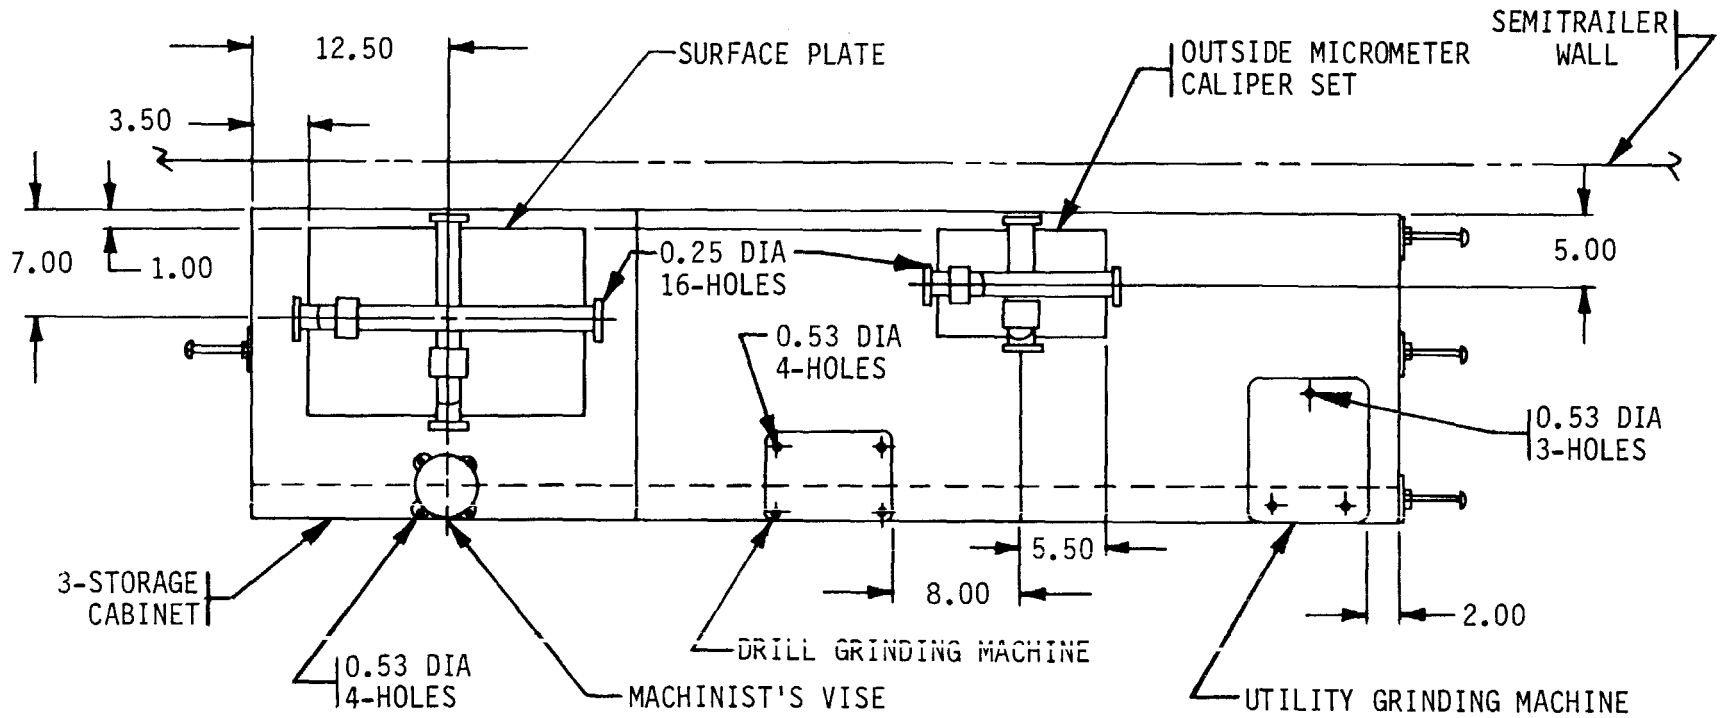

Figure 4. Dimensions for storage cabinet top mounted equipment.
(7) Position surface plate (5220-00-293-3556) on storage cabinet top in accordance with figure 4. Secure surface plate to storage cabinet top by placing one 66-in. retaining strap (7550588-9) parallel to semitrailer wall and one 48-in. retaining strap (7550588-3) perpendicular to wall.
(8) Position machinist's vise (5120-00-293-1439) on storage cabinet top in accordance with figure 4. Using the base of the machinist's vise as a template, mark and drill four 0.53-in. diameter holes through the storage cabinet top. Secure machinist's vise to storage cabinet top using four 1/2- x 3-1/2-in. hex head capscrews (MS90725-121) and four 17/32-in. flat washers (MS27183-18); on the underside use four 1/2-in. flat washers (AN970-8), four 1/2-in. lockwashers (MS35338-48), and four 1/2-in. hex nuts (MS51967-14).
(9) Position outside micrometer caliper set (5210-00-554-7134) to storage cabinet tops in accordance with figure 4. Secure outside micrometer caliper set cases to storage cabinet tops with one 66-in. retaining strap (7550588-9) placed parallel to semi-trailer wall, and one 48-in. retaining strap (7550588-3) perpendicular to wall.
(10) Position drill grinding machine (3415-00-517-1050) on storage
cabinet top in accordance with figure 4. Using the base of the drill grinding machine as a template, mark and drill four 0.53-in. diameter holes through storage cabinet top. Secure drill grinding machine to storage cabinet top using four 1/2- x 3-1/2-in. hex head capscrews (MS90725-121) and four 17/32-in. flat washers (MS27183-18); under the storage cabinet top use four 1/2-in. flat washers (AN970-8), four 1/2-in. lockwashers (MS35338-48), and four 1/2-in. hex nuts (MS51967-14).
(11) Position utility grinding machine (3415-00-255-2683) on storage cabinet top in accordance with figure 4. Using the base of the utility grinding machine as a template, mark and drill three (1.53-in. diameter holes through storage cabinet top. Secure utility grinding machine to storage cabinet top using three 1/2- x 3-1/2-in. hex head capscrews (MS90725-121) and three 17/32-in. flat washers (MS27183-18); under the storage cabinet top use three 1/2-in. flat washers (AN970-8), three 1/2-in. lockwashers (MS35338-48), and three 1/2-in. hex nuts (MS51967-14).